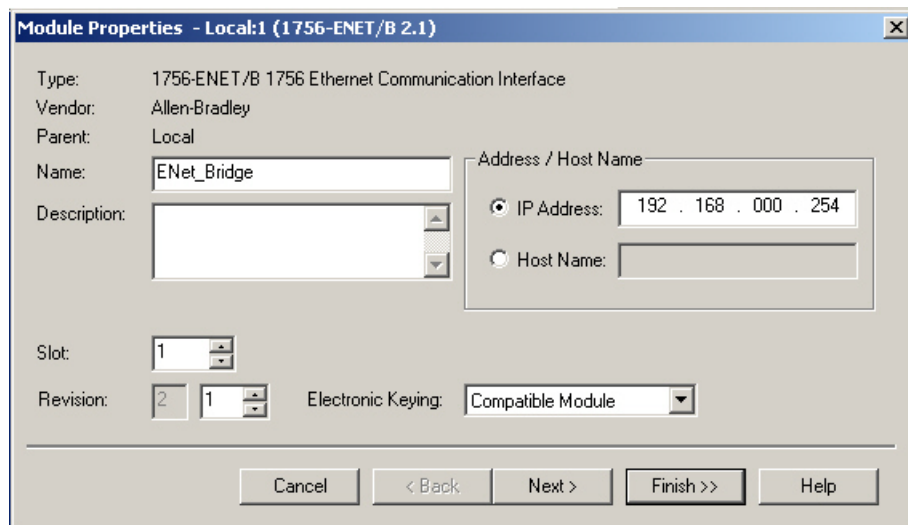

Figure 6.2 Setting Module Properties
- 3) Enter the following information in the *Module Properties* window that opens. All parameters not listed here are optional. Figure 6.2 shows a completed screen.
You will still have to set an IP address for the Ethernet Port if the port is built into your processor. Right click on the port name in the I/O Configuration screen and select “Properties”. A Module Properties window similar to the one shown in figure 6.2 will open. In this window you must set an IP Address for the port, *not* the IP address of the SD31045E.